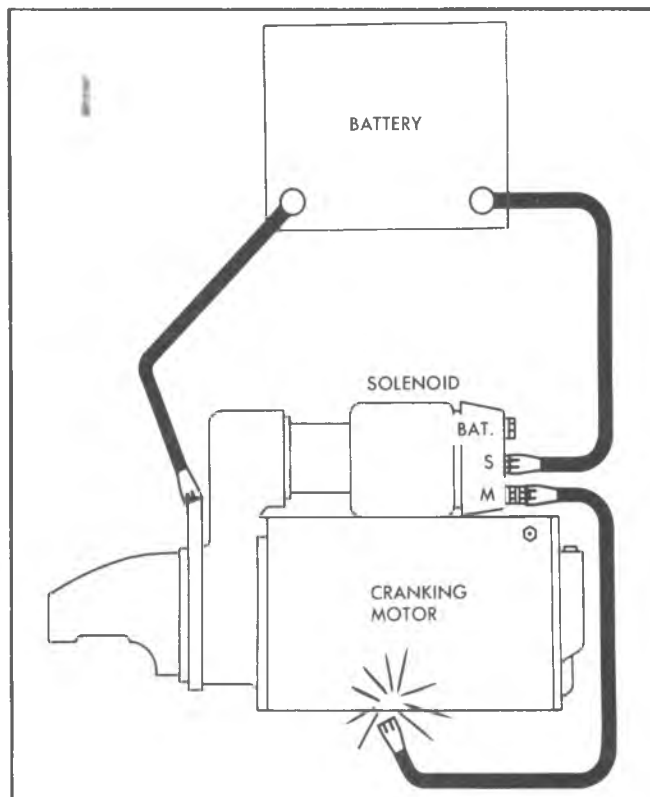

Fig. 11S-Circuit for Checking Pinion Clearance
1. Connect a battery, of the same voltage as the solenoid, from the solenoid switch terminal to the solenoid frame or ground terminal (fig. 11S).